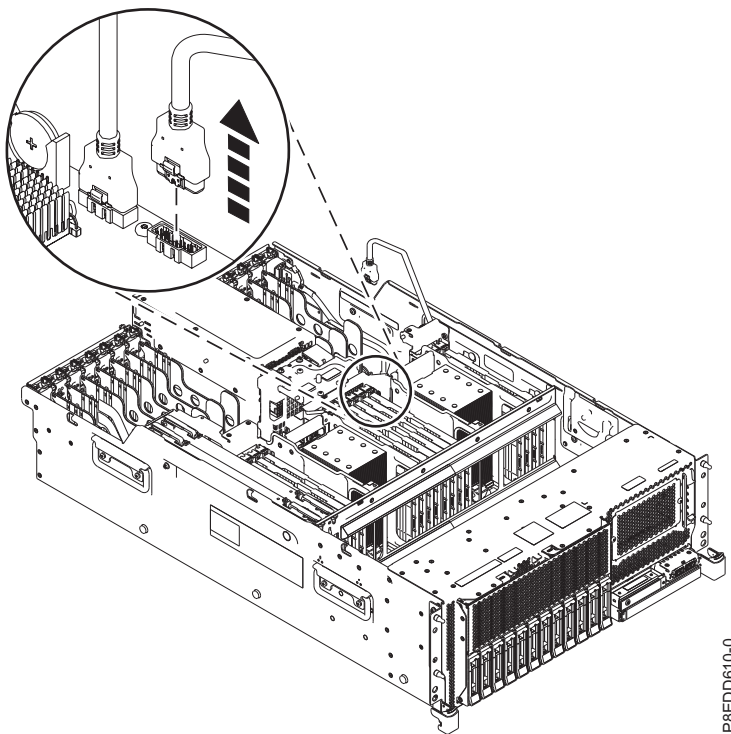

Figure 64. Disconnecting the front USB cable
15. Disconnect the front USB cable from the system backplane and route it over the side of the system and out of the way to provide clearance for removing the backplane. See Figure 64.